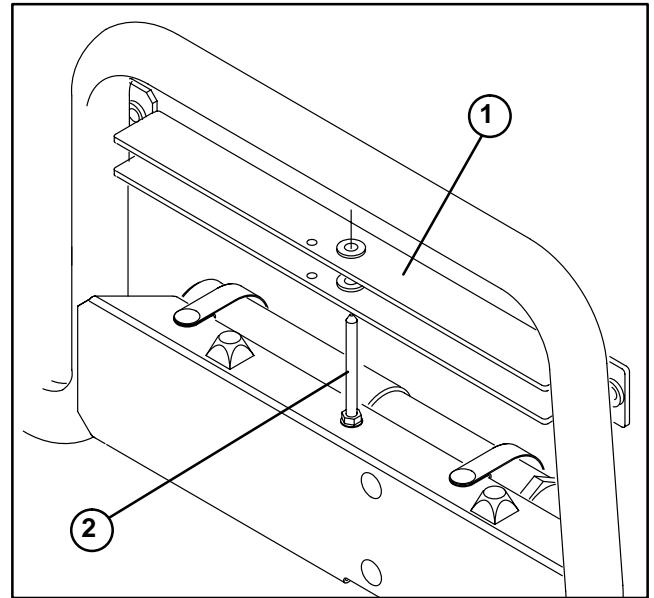

Figure 3
2. Remove bed support from storage stud on top of back rest support channel on Workman (Fig. 3).